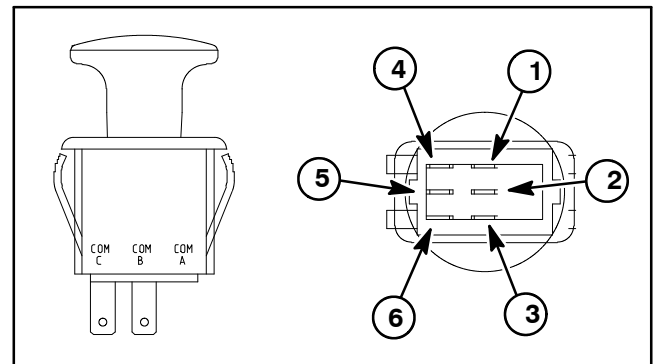

Figure 33
5. The PTO switch terminals are identified in Figure 33 and the circuitry of the PTO switch is shown in Figure 34. With the use of a multimeter (ohms setting), the switch functions may be tested to determine whether continuity exists between the various terminals for each switch position. Verify continuity between switch terminals.